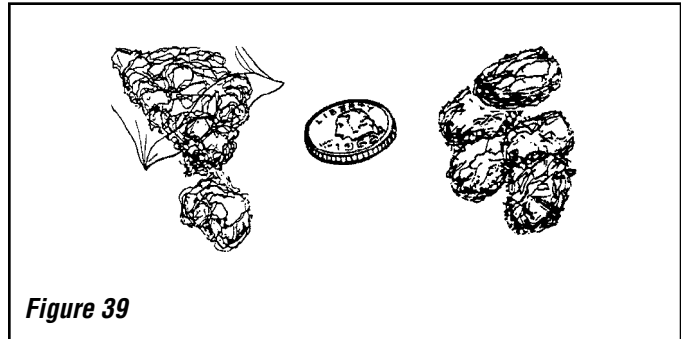
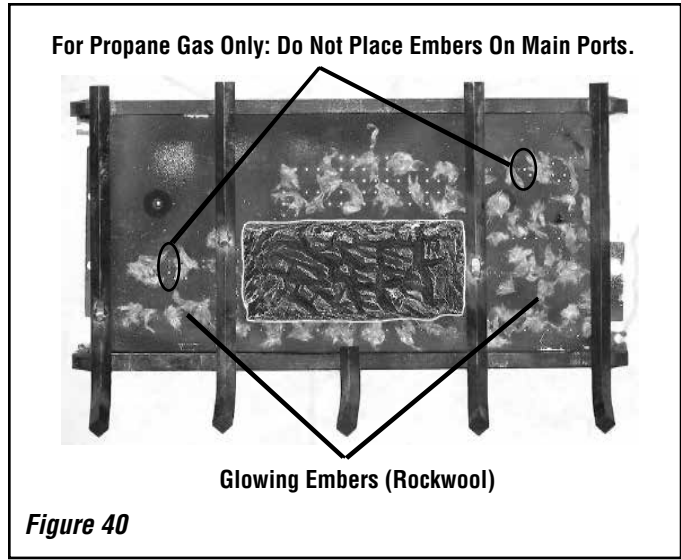

Figure 39
Figure 40
- Step 3.** Separate the glowing embers (rockwool) into pieces about the size of a quarter (see *Figure 39*). Keep the pieces fluffed, not matted. Distribute these pieces over the burner as shown in *Figure 40*. Do not use more than necessary. When properly positioned, the Glowing Embers will cover approximately 75% of the burner on natural gas. For propane gas, do not place embers on main ports.